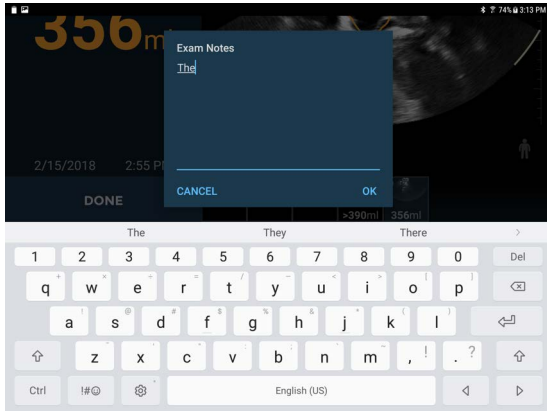

FIGURE 39. Exam notes
2. Select **Exam Notes** from the drop-down list box (FIGURE 39. Exam notes).